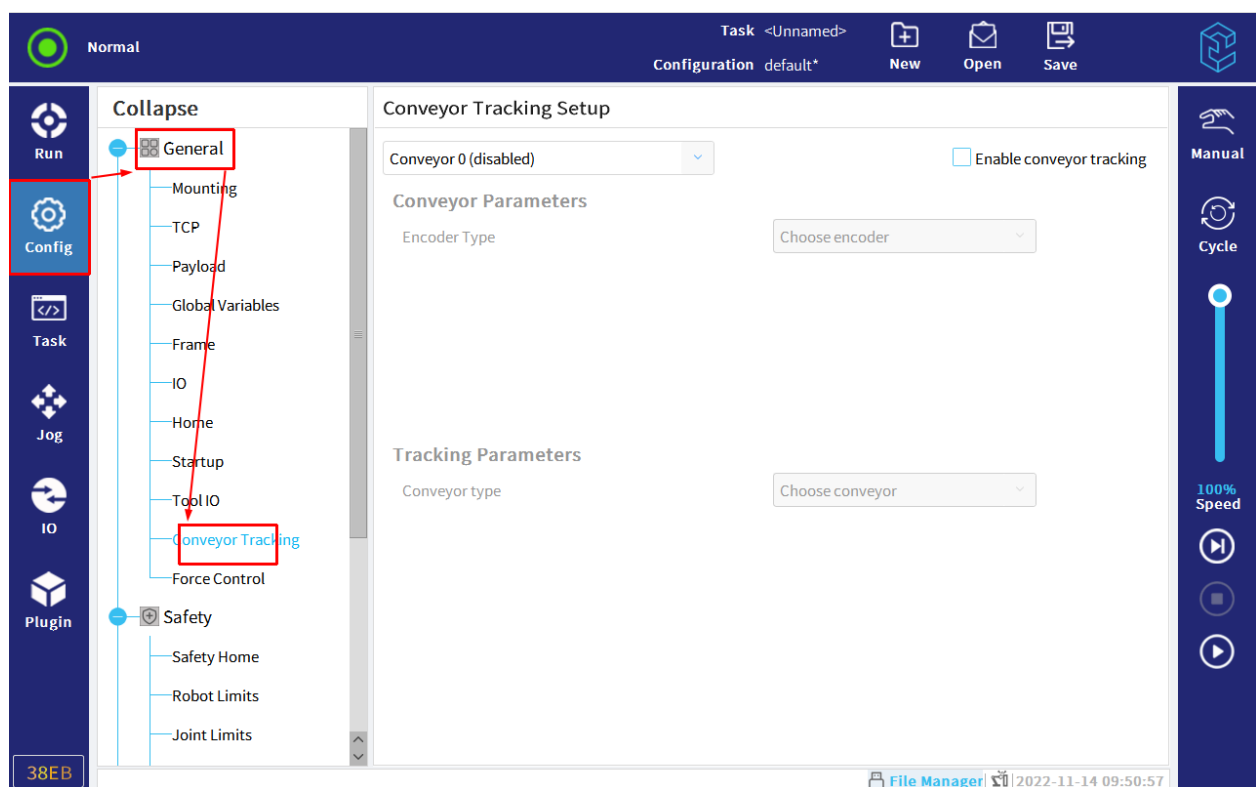

Figure 11-19 Conveyor tracking
4. Select "Variable encoder count" as the Modbus slave connected in "General > Communication > Modbus", as shown in Figure 11-19.